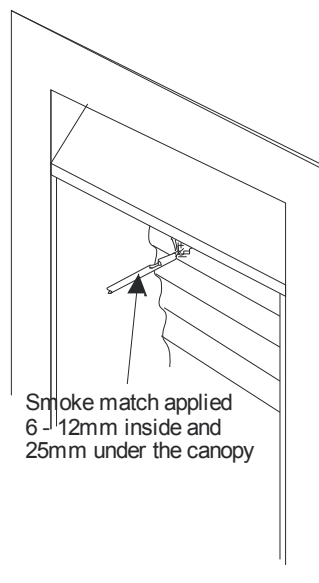

Figure 73
3. Test for spillage using a smoke match (in a 'Blume tube') at the top of the appliance, fireplace opening or under the canopy at the centre, with the smoke match being approximately 25mm under and 6 - 12mm inside the opening (see **Figure 73**).